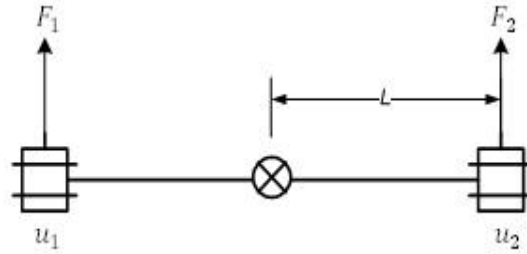

Figure 15: A model of the roll/pitch axis
Assuming that rotations about the  $x$  and  $y$  axes are decoupled, the motion in roll/pitch axis can be modeled as shown in Figure 15. As illustrated in this figure, two propellers contribute to the motion in each axis. The rotation around the center of gravity is produced by the difference in the generated thrust forces. From Eq. (2), let  $u = \tilde{u}$ , where  $\tilde{u}$  is the control input for the pitch or roll dynamics that causes an increase or decrease in thrust force in the two pitch/roll motors shown in Figure 15 and such that the changes in force of each motor are opposite in direction so that the net result is a torque. E.g. the control signal is applied to increase the force in motor 1 and decrease the force in motor 2. This change in motor forces is what causes the resulting torque and roll or pitch dynamics, so we can ignore the net thrust force used to hover the Qball. The change in thrust generated by each motor can be calculated from Eq. (1). The roll/pitch angle,  $\theta$ , can be formulated using the following dynamics